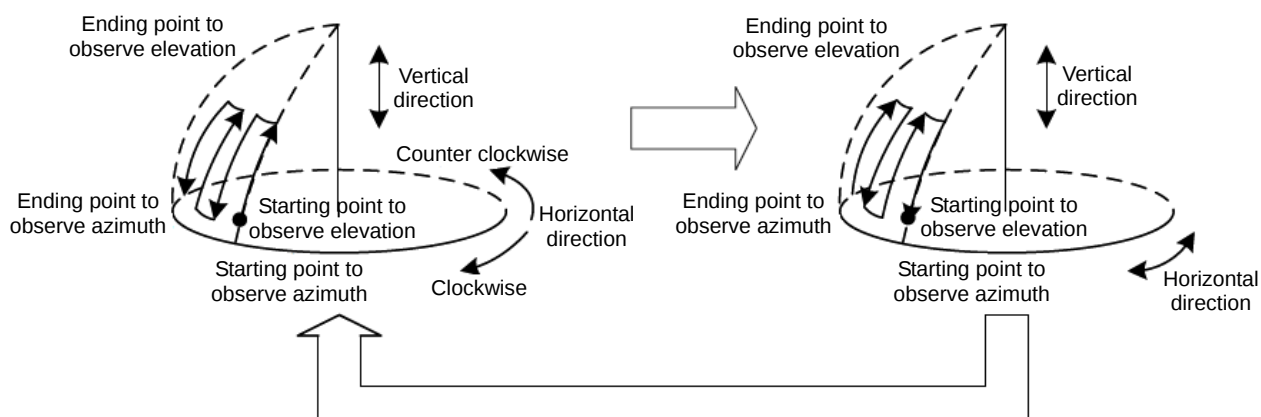

Figure 1. Sector RHI scan mode
- **Sector RHI scan (3D data):** [Sector Range Height Indicator scan] (ref. Fig.1)